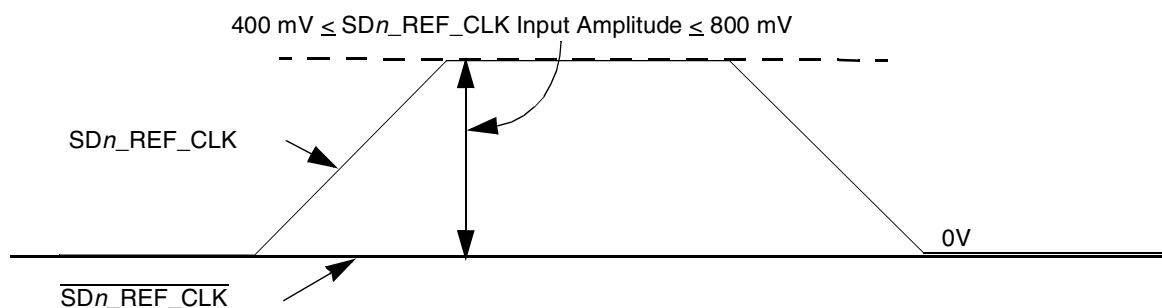

Figure 61. Single-Ended Reference Clock Input DC Requirements
- The SDn_REF_CLK input average voltage must be between 200 and 400 mV. Figure 61 shows the SerDes reference clock input requirement for single-ended signaling mode.